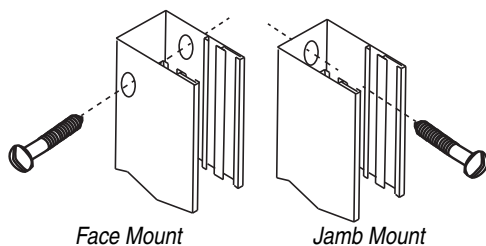

Figure 8
- ③ Attach using hardware appropriate to mounting surface and conditions (see Fig. 8).